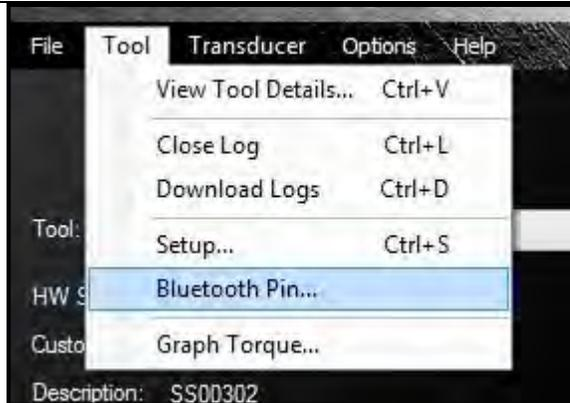

Figure 5.8-1: Bluetooth Pin Button
2. In the "Tool" dropdown menu, press **"Bluetooth Pin"** (Figure 5.8-1).